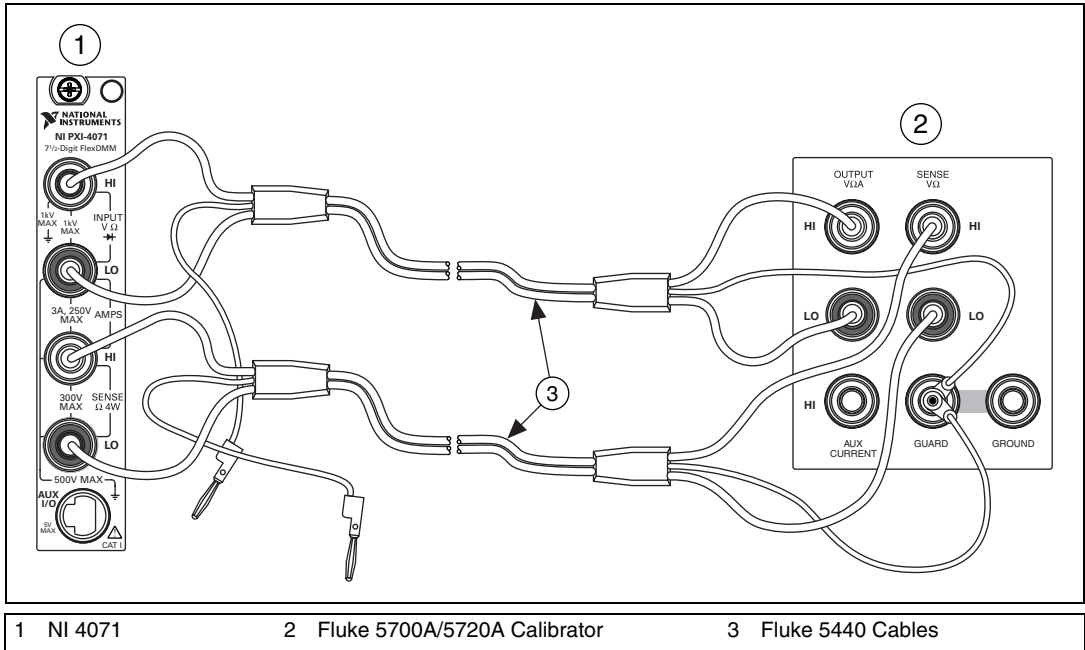

Figure 4. Cable Connections for 4-Wire Resistance
2. Connect the NI 4071 and the Fluke 5700A/5720A calibrator using the Fluke 5440 cables, as shown in Figure 4. Table 7 lists the cable connections.